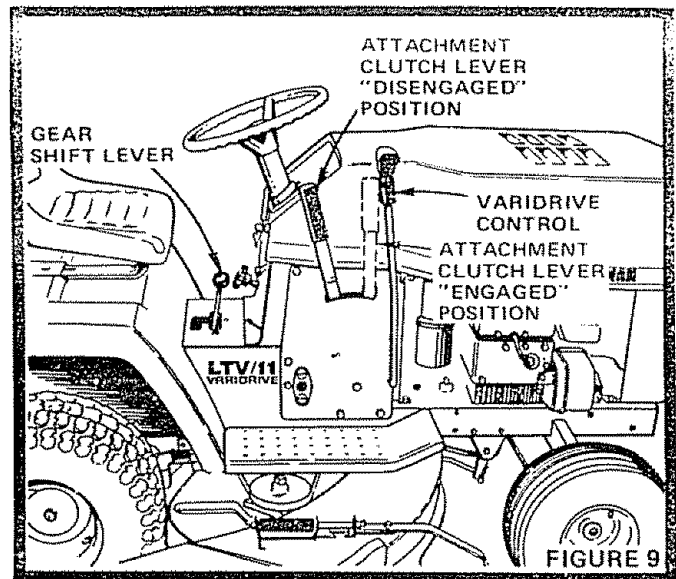

FIGURE 9
**CAUTION: DO NOT OPERATE VARIDRIVE CONTROL (FIG. 9) UNLESS ENGINE IS RUNNING. TRANSAXLE DAMAGE MAY RESULT.**
THIS TRACTOR IS EQUIPPED WITH INTERLOCK SWITCHES TO PREVENT STARTING OF THE TRACTOR ENGINE WHILE THE ATTACHMENT CLUTCH LEVER (FIG. 9) IS IN THE "ENGAGED" POSITION AND/OR THE GEAR SHIFT LEVER IS NOT IN "N" NEUTRAL POSITION (FIG. 9). IMMEDIATELY REPLACE SWITCHES THAT ARE NOT IN PROPER WORKING ORDER. DO NOT ATTEMPT TO DEFEAT THE PURPOSE OF THESE SWITCHES.
- a. Shift gear shift lever to neutral (Fig 9)
- c. Disengage attachment clutch (Mower Blade Clutch Lever) (Fig 9).
1. Place Attachment Clutch Lever in "DISENGAGED" position (Fig. 9).
4. Place Gear Shift Lever in "N" neutral position (Fig 9).